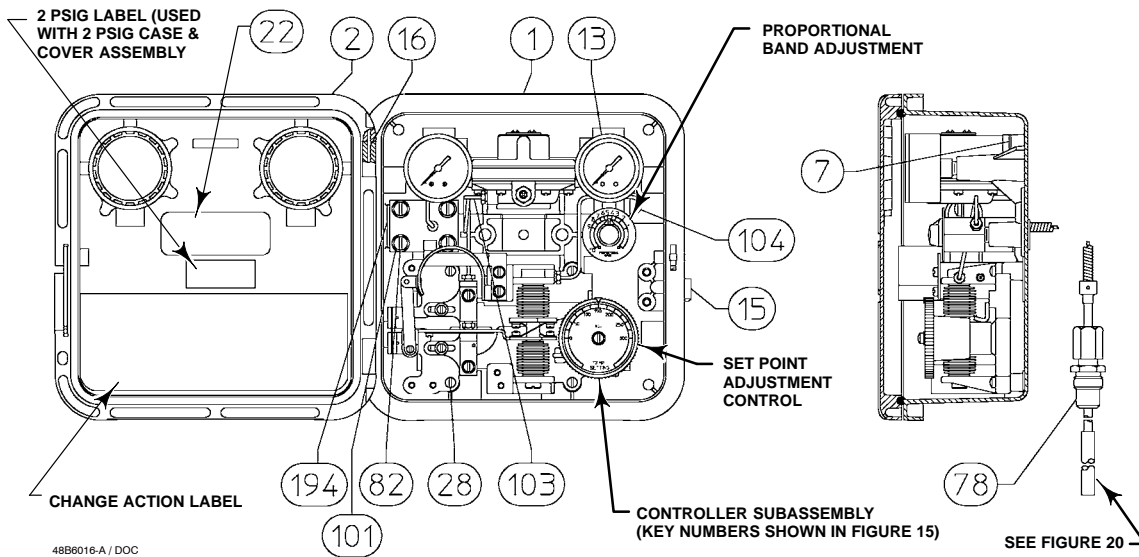

Figure 17. Proportional-Only Controller Assembly
If the installation includes a 67 Series filter-regulator, periodically open the drain on the filter-regulator to drain accumulated moisture. Establish a maintenance cycle for the filter and regulator to ensure that they are clean and functioning properly. Clean the opening of the vent assembly (key 15, figure 17 or 18) regularly as necessary to keep it from becoming plugged. The relay orifice (key 88, not shown) can be cleaned by pressing the cleaner wire (key 89, not shown).
2. Remove the machine screws and washers (keys 77 and 76 and keys 82 and 101, figure 17 or 18). Remove the machine screw (key 63) that holds the connecting link (key 64) in place; take care not to lose the link bearing (key 65).
3. Position the Bourdon tube and process temperature gauge, and install and tighten the machine screws and washers (keys 77 and 76 and keys 82 and 101, figure 17 or 18).
1. Disconnect the appropriate tubing and remove the proportional band adjustment valve assembly (figure 17) or the reset adjustment valve assembly (key 256, figure 18) by unscrewing it from the case. Install the desired replacement assembly.
Key numbers are shown in figure 17 or 18 unless otherwise noted.
Also, make appropriate changes to the nameplate (key 22, figure 17 or 18) of the controller reflecting the new range selections.
1. Shut off the supply pressure to the controller. Remove the temperature bulb (part of the temperature element assembly key 78) from the process.
2. Open the cover. Disconnect the tubing from the mounting base (key 30) and calibration adjuster (key 41). Remove the machine screws and washers (keys 77 and 76 and keys 82 and 101, figure 17 or 18). Remove the machine screw (key 63) that holds the connecting link (key 64) in place; take care not to lose the link bearing (key 65). Lift the Bourdon tube and process temperature gauge (these are part of the temperature element assembly, key 78) away from the case, withdrawing the capillary tube and temperature bulb through the opening in the rear of the case.
3. Unscrew the machine screws (key 28, figure 17 or 18), and remove the subassembly from the case.
10. Unscrew the output gauge (key 13, figure 17 or 18), and install a new gauge with the correct pressure ranges.
Whenever you correspond with your Emerson Process Management sales office about this equipment, mention the serial number found on the nameplate (key 22, figure 17 or 18) of the unit. When ordering replacement parts, state the complete 11-character part number of each part required as found in the following parts list.
Proportional Band Adjustment Assembly (figures 17 and 18)
Controller and Controller Subassembly (figures 17, 18, and 19)